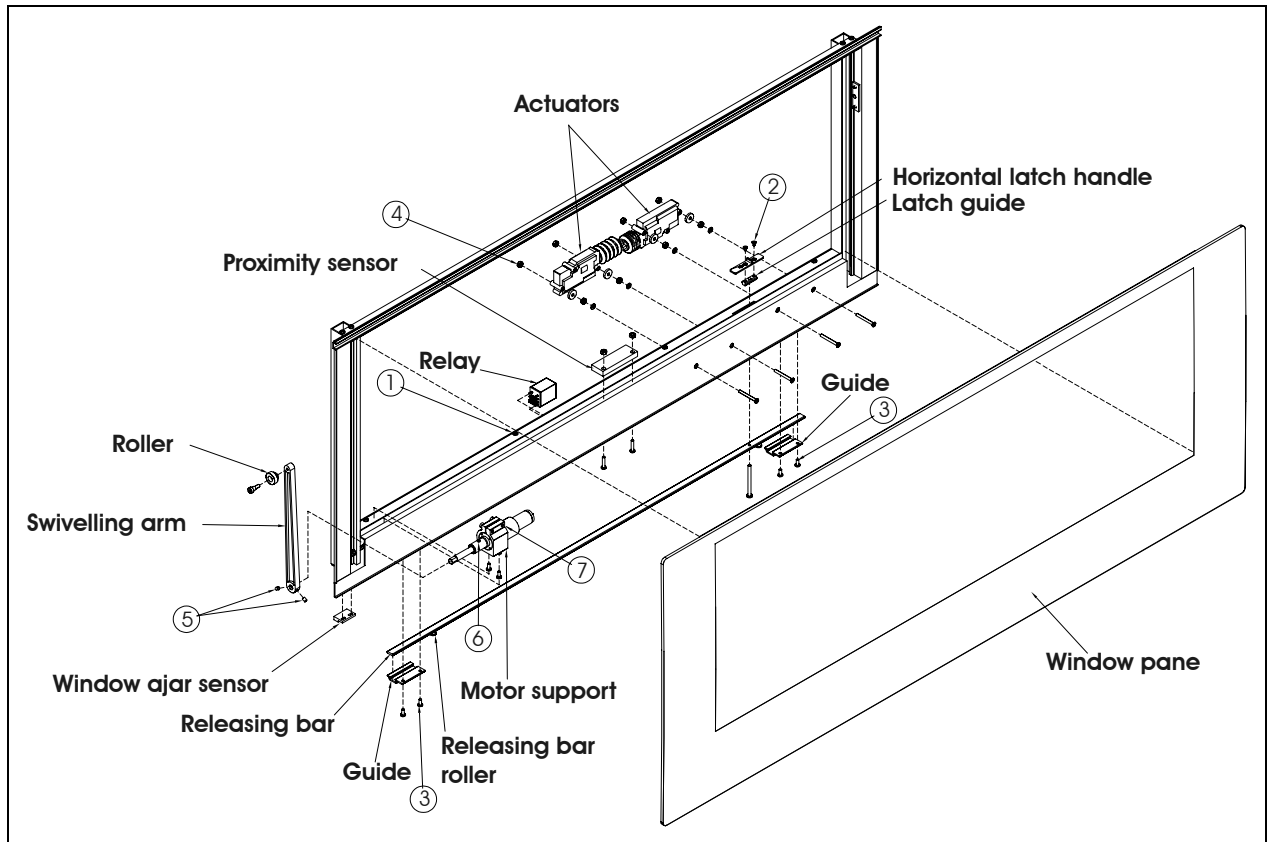

FIGURE 19: ELECTRIC AWNING WINDOW EXPLODED VIEW (SASH)
4. Loosen the set screws #5 (figure 19) (rotate the arm to get to the second set screw) and disengage the swiveling arm from the motor shaft extension.